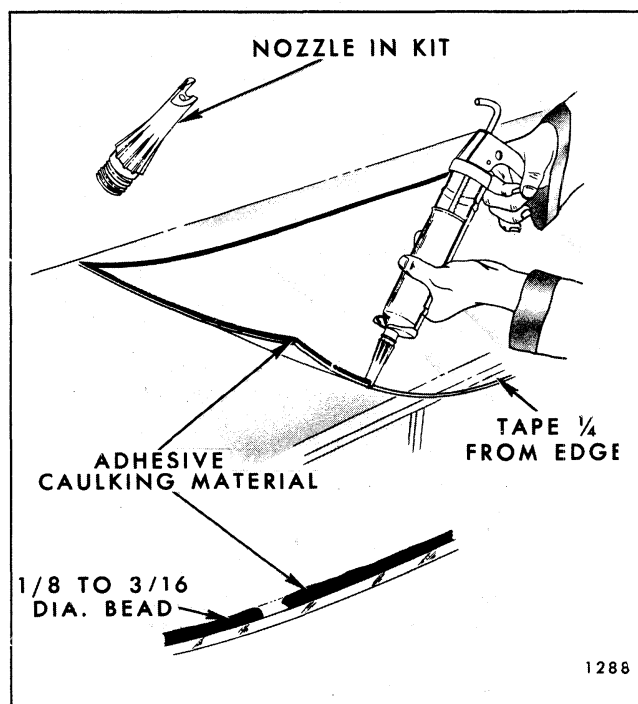

Fig. 11-7-Adhesive Material Application - Short Method
7. Apply smooth continuous bead of adhesive material over entire inside edge of glass where primed in step 6. Material should be 1/8" to 3/16" in diameter (Fig. 11-7). On windshields with embedded antenna, omit adhesive caulking 4 inches both sides of antenna lead pigtail.